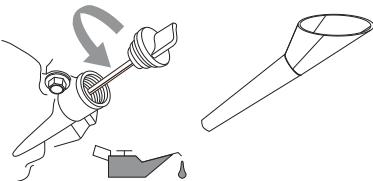

Figure 4-3. Oil Fill Opening With Funnel
8. See **Figure 4-3**. Insert funnel into oil fill opening. Add recommended engine oil as necessary.